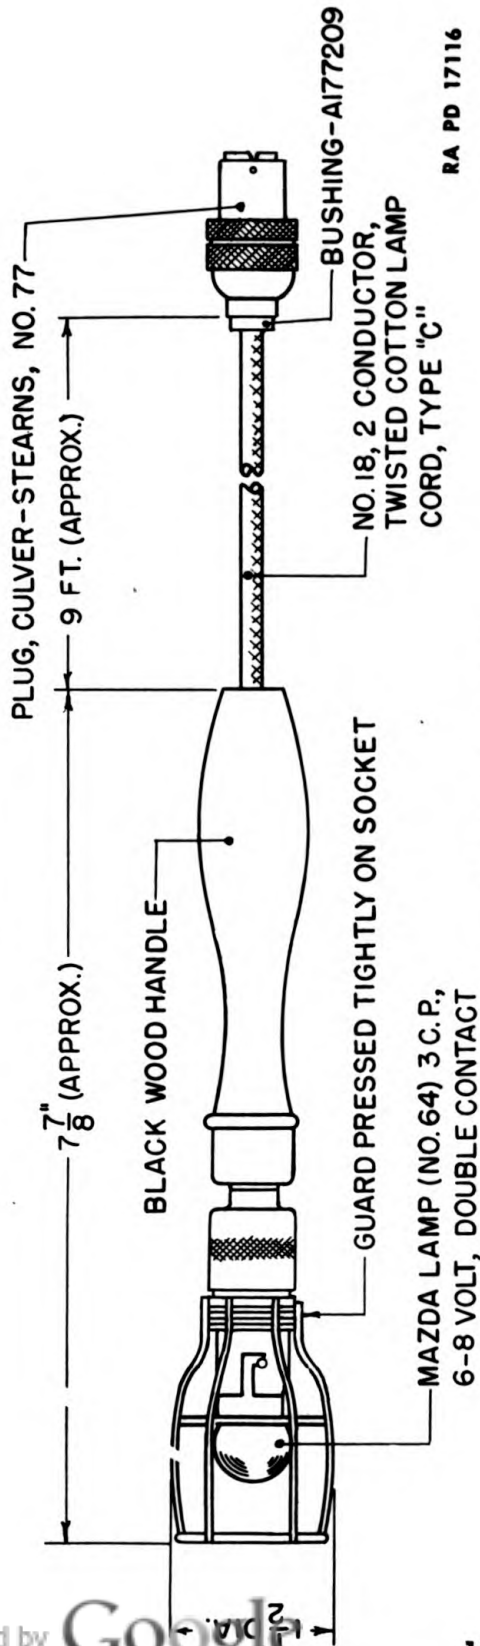

Figure 14—Trouble Lamp
a. **Trouble Lamp.** A trouble lamp B135896 (fig. 14) is a part of the electrical equipment. This has a 3-candlepower, 6- to 8-volt, double contact lamp (No. 64), a lamp guard, a handle, approximately 9 feet of cable, and a plug for plugging into the socket A178646 on the under side of the deflection worm housing.